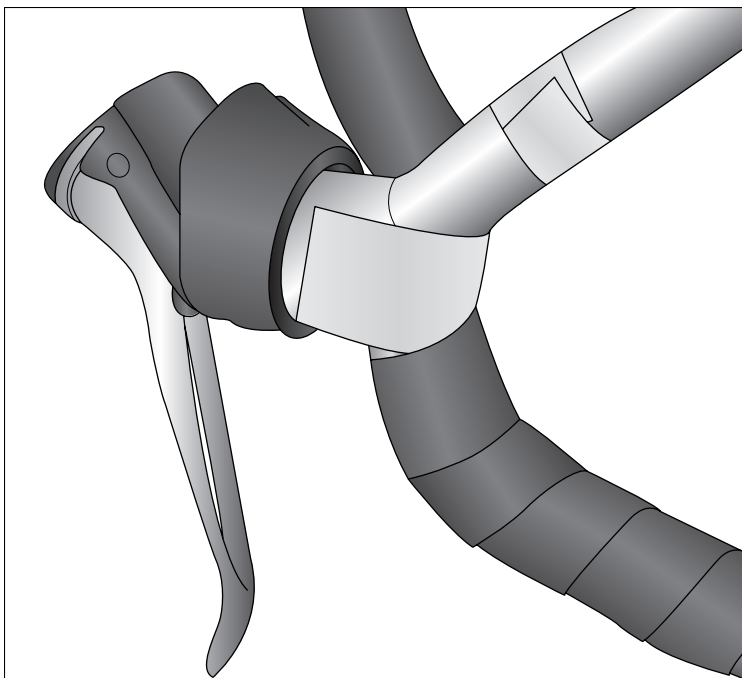

Figure 15-5:
4. **Pull the tape upward so that there is no slack (see Figure 15-5).**